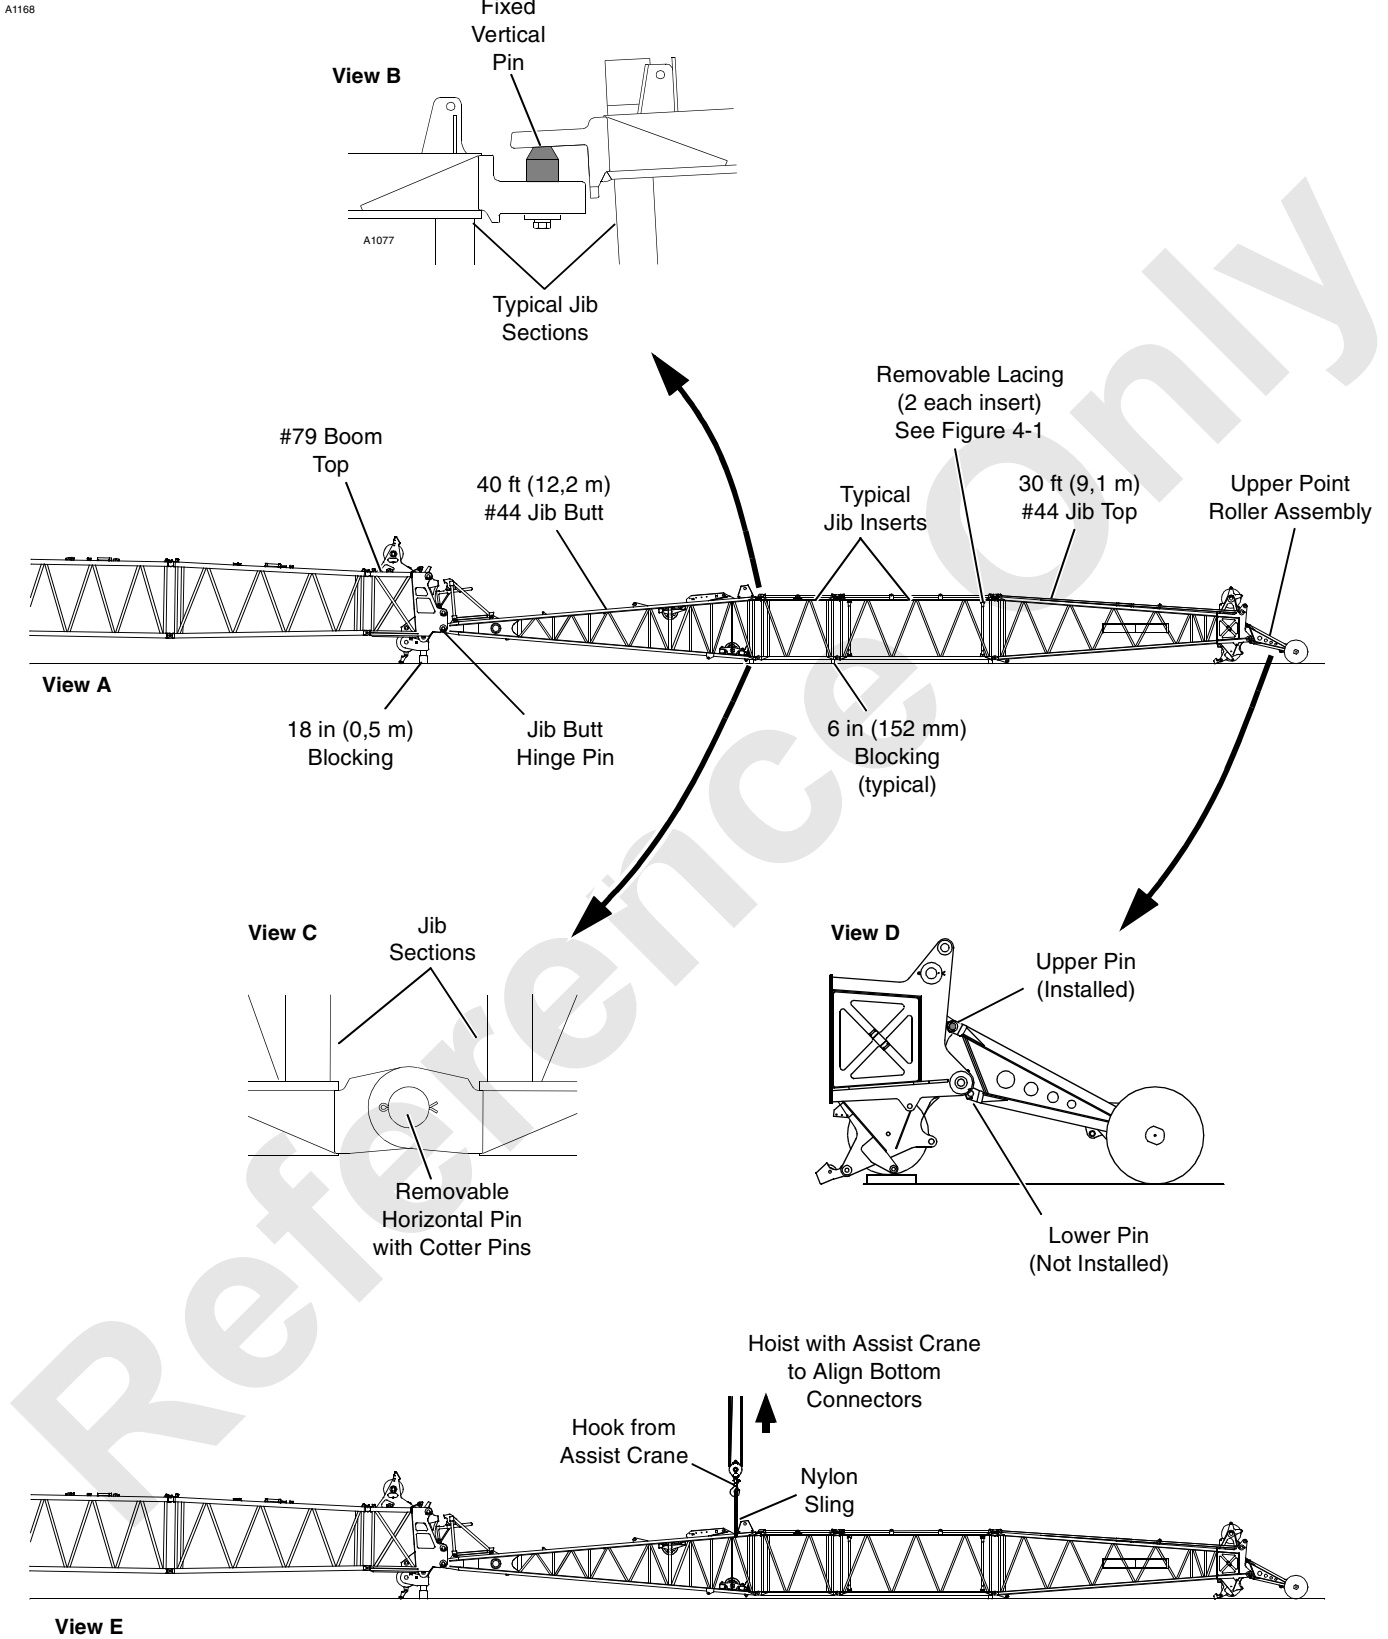

FIGURE 4-4
3. Swing boom in-line with crawlers and lower boom onto blocking approximately 4 ft (1,2 m) high (Figure 4-4).
See Figure 4-4, View A for following procedure.
See Figure 4-4 for following procedure.
See Figure 4-4, View E for following procedure.